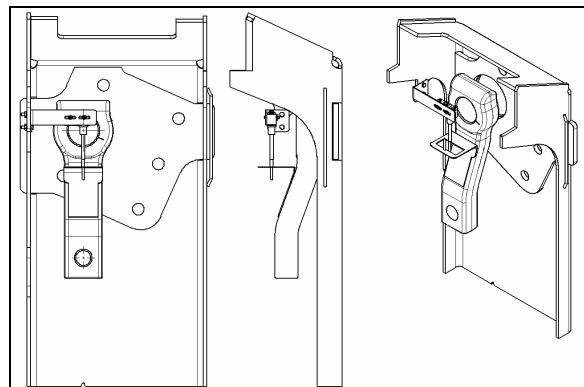

FIGURE 8: TAG AXLE UNLOADING SWITCH
2. Line up switch lever with reference to the bracket center (Refer to figure 8).